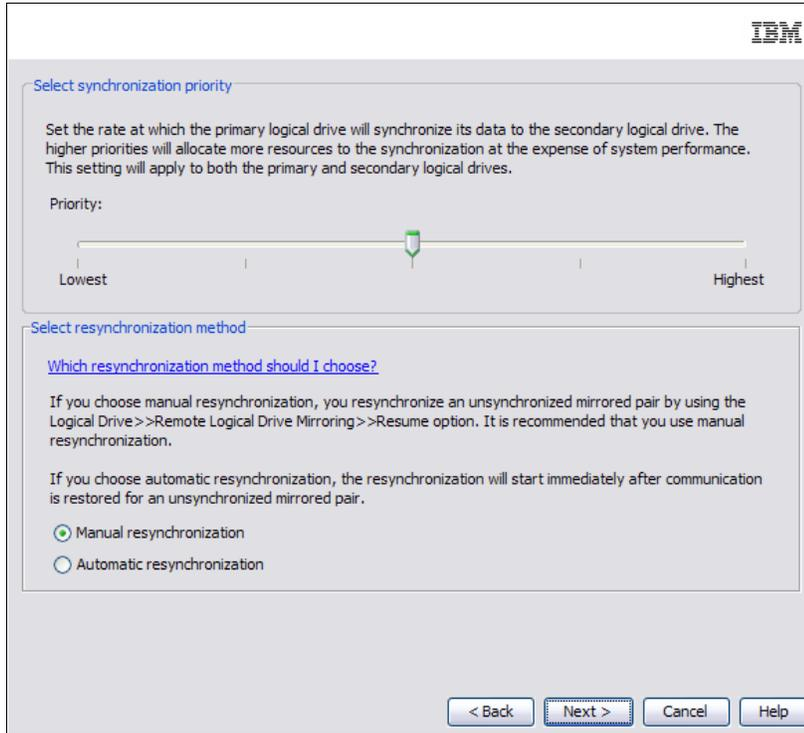

Figure 5-20 Create Remote Mirror: Set Synchronization Priority
7. Set the synchronization priority in the next window (Figure 5-20). Use this window to set the rate at which the controller owner of the primary logical drive synchronizes data with the secondary logical drive. The controller owner of the primary logical drive uses the synchronization priority, but a synchronization priority is also set on the secondary logical drive at this time (in case it is promoted to a primary logical drive, in a role reversal). See 4.6.2, “Data synchronization priority” on page 115.